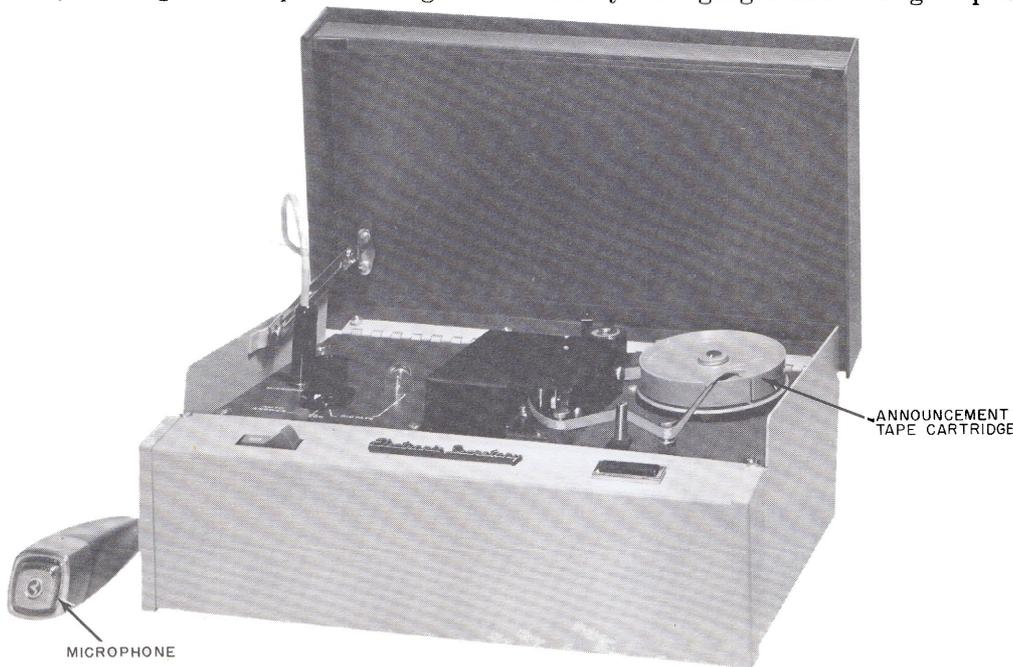

Figure 1. Model AO-3 (Front View).
- 1.02 The Electronic Secretary® Model AO-3 (see Figure 1) is an automatic answering device utilizing a magnetic tape cartridge as